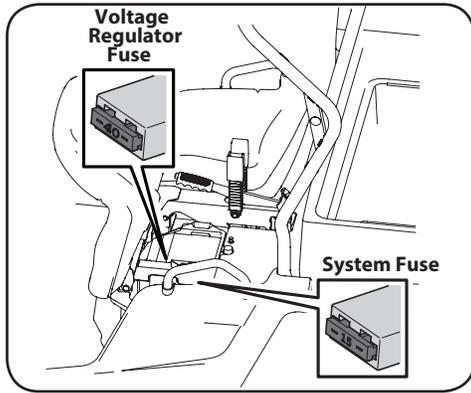

Figure 6-11
- Remove the appropriate electrical fuse and replace if needed with proper rated amp fuse. See Figure 6-11.